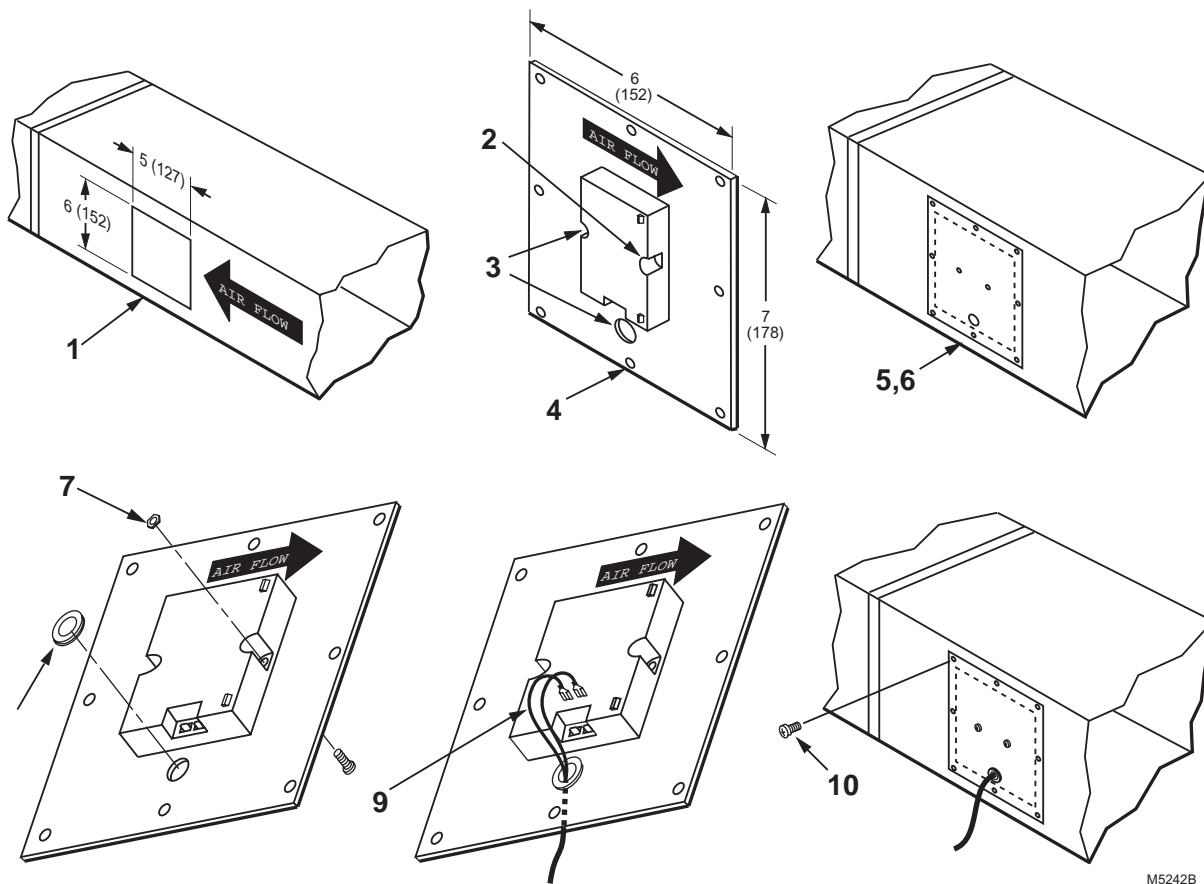

Fig. 6. Installing C7600A Solid State Humidity Sensor in return air duct.
Mounting in Return Air Duct (See Fig. 6)
10. Attach sheet metal rectangle to duct with self-tapping sheet metal screws. Make sure that airflow over the sensor is as shown in Fig. 6.